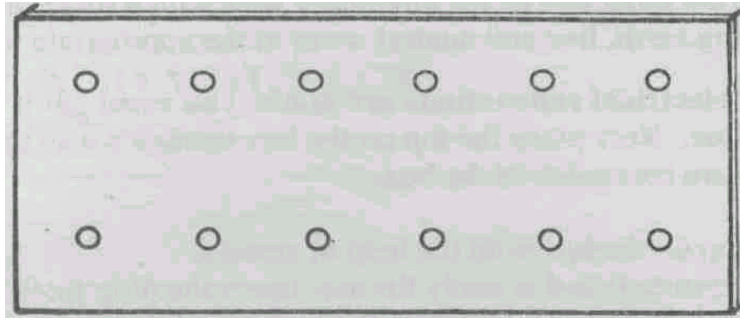

Fig.7.6 Fixing of sockets and switches on the extension board
1. Take out the top of the wooden/plastic box for drilling holes in it to fix the sockets and switches (Fig.7.6). With a pencil, mark the points shown in Fig.7.6 for holes. Use a hand drill to drill holes of appropriate size at these points. Fix the sockets and switches in their appropriate positions on the top of the box with screws. Take help of your counsellor for this activity, if need be.